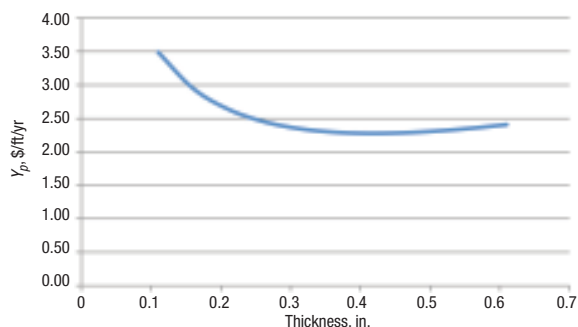

FIGURE 6. For the example problem, numerical calculations show that the total cost, y_p , is a minimum at 0.464 in.
Rigorous method. First we use the numerical method discussed above. Assuming an average thermal conductivity of 0.025 Btu/h-ft-°F and solving Equation (8) for r_2 such that Equation (8) equals Equation (9) gives an optimal value for r_2 of 1.65 in., and the temperature T_2 is found to be 125.7°F. That means the optimal thickness is $r_2 - r_1 = 0.464$ in. For these optimal values of r_2 and T_2 , the heat loss, U , is equal to 95.3 Btu/h-ft. A plot of Equation (12) shows that the total cost of insulation plus the cost of heat loss, y_p , is minimized to \$2.63/ft at a thickness of 0.464 in. (Figure 6).